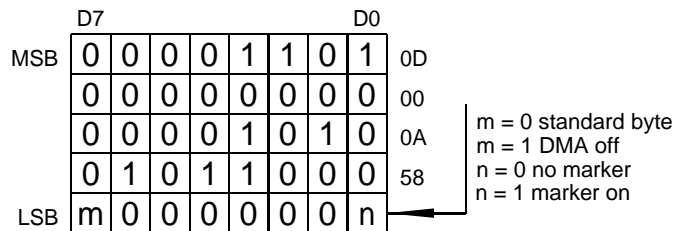

Figure 4-8. FM Modulating Waveform Data Structure
3. **When downloading waveforms using the DMA, only binary data can be loaded. The binary data structure is shown in Figure 4-8. Be careful not to send ASCII characters or SCPI commands that are not part of the waveform data because it will confuse the generator and will cause errors.**
2. Convert the result from 1 above to 4-byte (32-bit) binary word and union with an 8-bit control word as shown in Figure 4-8.
five 8-bit words before it can be used by the 396 as FM modulating waveform data. Figure 4-8 shows how to prepare the 40-bit word for the FM modulating waveform.